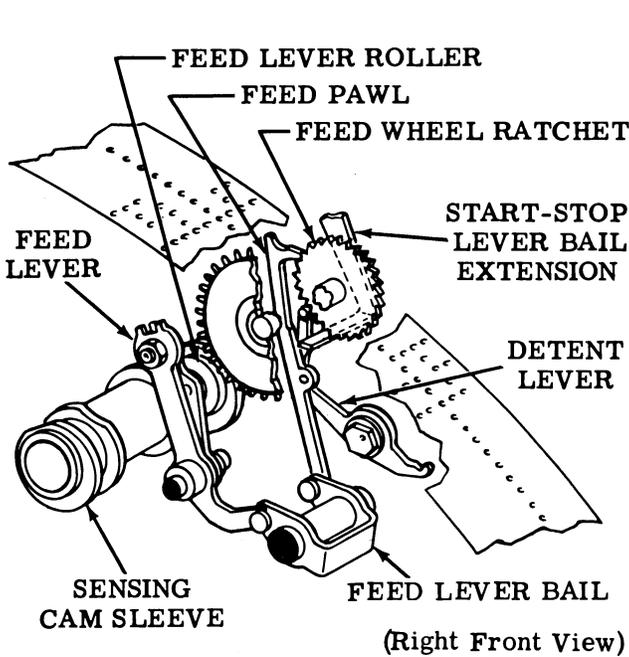

Figure 17 - Tape Feed Mechanism
9.01 At approximately 250 degrees of sensing cam rotation, the sensing cam sleeve through a mechanical linkage (Figure 17), causes the feed pawl to engage the feed wheel ratchet and rotate the feed wheel. Pins on the feed wheel engage the feed holes and advance the tape one character. A detent lever engages the ratchet and holds the feed wheel and the tape in position for the next sensing cycle.
10.02 Positioning the start-stop lever in the FREE position causes the sensing clutch trip magnet circuit to open (as in 10.01) and also, by moving the tape feed pawl away from the feed wheel ratchet, permits the tape feed wheel to rotate freely (Figure 17).